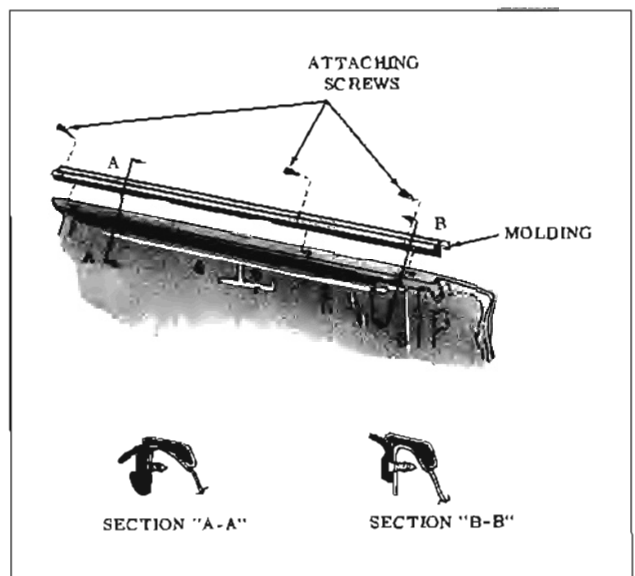
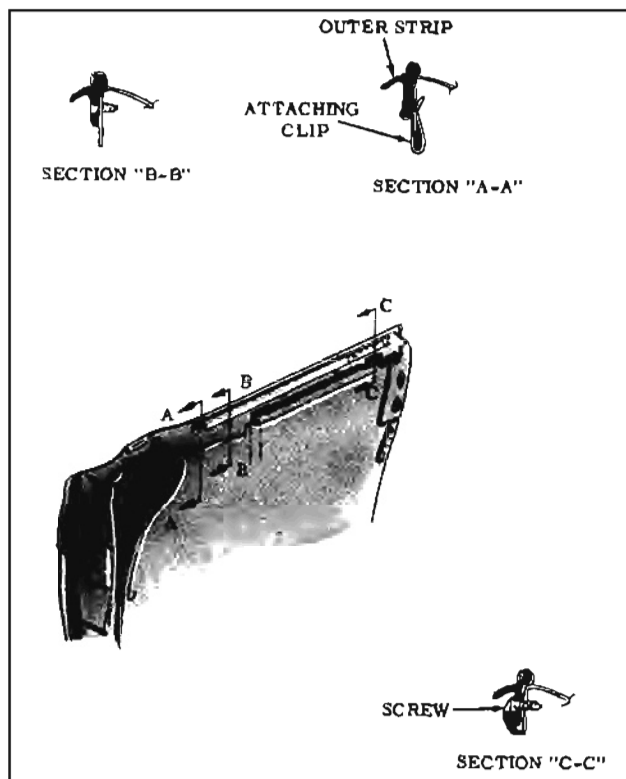

Fig. 16-12 Run Channel Outer Strip with a Belt Reveal Molding
Fig. 16-13 Run Channel Outer Strip without a Belt Reveal Molding
4. Remove all outer strip assembly attaching screws (three screws on styles equipped with a belt reveal molding and two screws on all other styles). See Fig. 16-12 for styles with a belt reveal molding and Fig. 16-13 for all other styles.